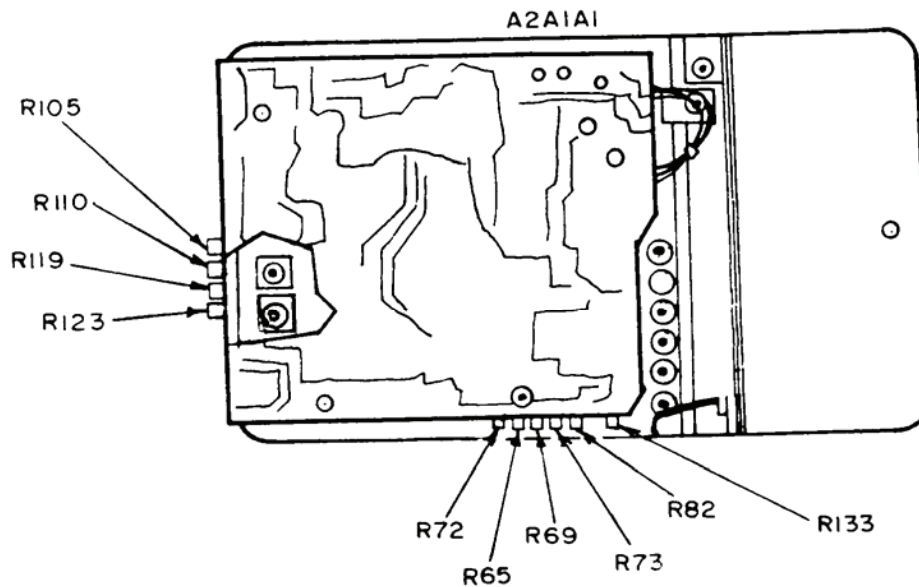

Figure 8. MM-100E multimeter - rear view.
3If out-of-tolerance, adjust calibrator for 10.0000 and adjust A2A1A1R82 (fig. 8) for 10 V indication on multimeter. (R)
1If required, readjust A2A1A1R123 (fig. 8) for best in-tolerance indication (R).
(13) Set TI multimeter **FUNCTION** switch to **HI-Z** and **RANGE** switch to **1V**.
(14) Connect calibrator to TI multimeter **INPUT**.
(15) Adjust calibrator frequency for 1 kHz frequency and output for a 1 V indication on TI multimeter. If calibrator does not indicate between 0.95 and 1.05 V ac, perform **b (6)** below.
(16) Repeat technique of (15) above for **RANGE** switch settings and calibrator frequencies listed in table 16. Calibrator will indicate within limits specified.
- (1) Adjust A2A1A1R65 (fig. 8) for 0 indication on multimeter.
- (2) Adjust A2A1A1R73 (fig. 8) for 0 indication on multimeter.
- (3) Adjust calibrator output for a 1.00000 indication. Adjust A2A1A1R69 (fig. 8) for a 1V indication on TI multimeter (R).
- (4) Adjust A2A1A1R119 (fig. 8) for  $\infty$  (infinity) on TI multimeter (R).
- (5) Set resistance standard to 30  $\Omega$ . Adjust A2A1A1R123 (fig. 8) for 30  $\Omega$  indication on TI multimeter (R).
- (6) Adjust calibrator output for a 1 V indication. Adjust A2A1A1R72 (fig. 8) for a 1 V indication on TI multimeter (R).
- (7) Adjust A2A1A1R110 (fig. 8) for 6 dB indication on **SINAD** scale (R).
- (8) Adjust **1 kHz** control until audio analyzer indicates 10 percent distortion.
- (9) Adjust A2A1A1R105 (fig. 8) for 10 percent indication on TI multimeter (R).
- (10) Adjust A2A1A1R133 (fig. 8) for 60 percent indication on TI multimeter (R).